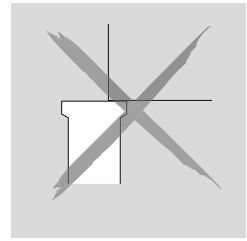

Fig. 11.1.2
- Never lift the load on one side of the head (Fig. 11.1.2).